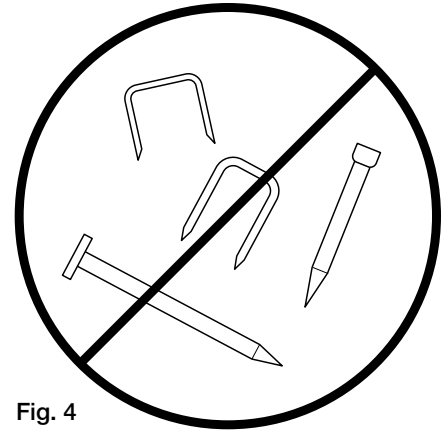

Fig. 4
**DO NOT USE STAPLES, WIRE NAILS, or BRADS** to fasten Klear products. Any fastener that can easily bend with bare hands will not provide adequate strength (Fig. 4).